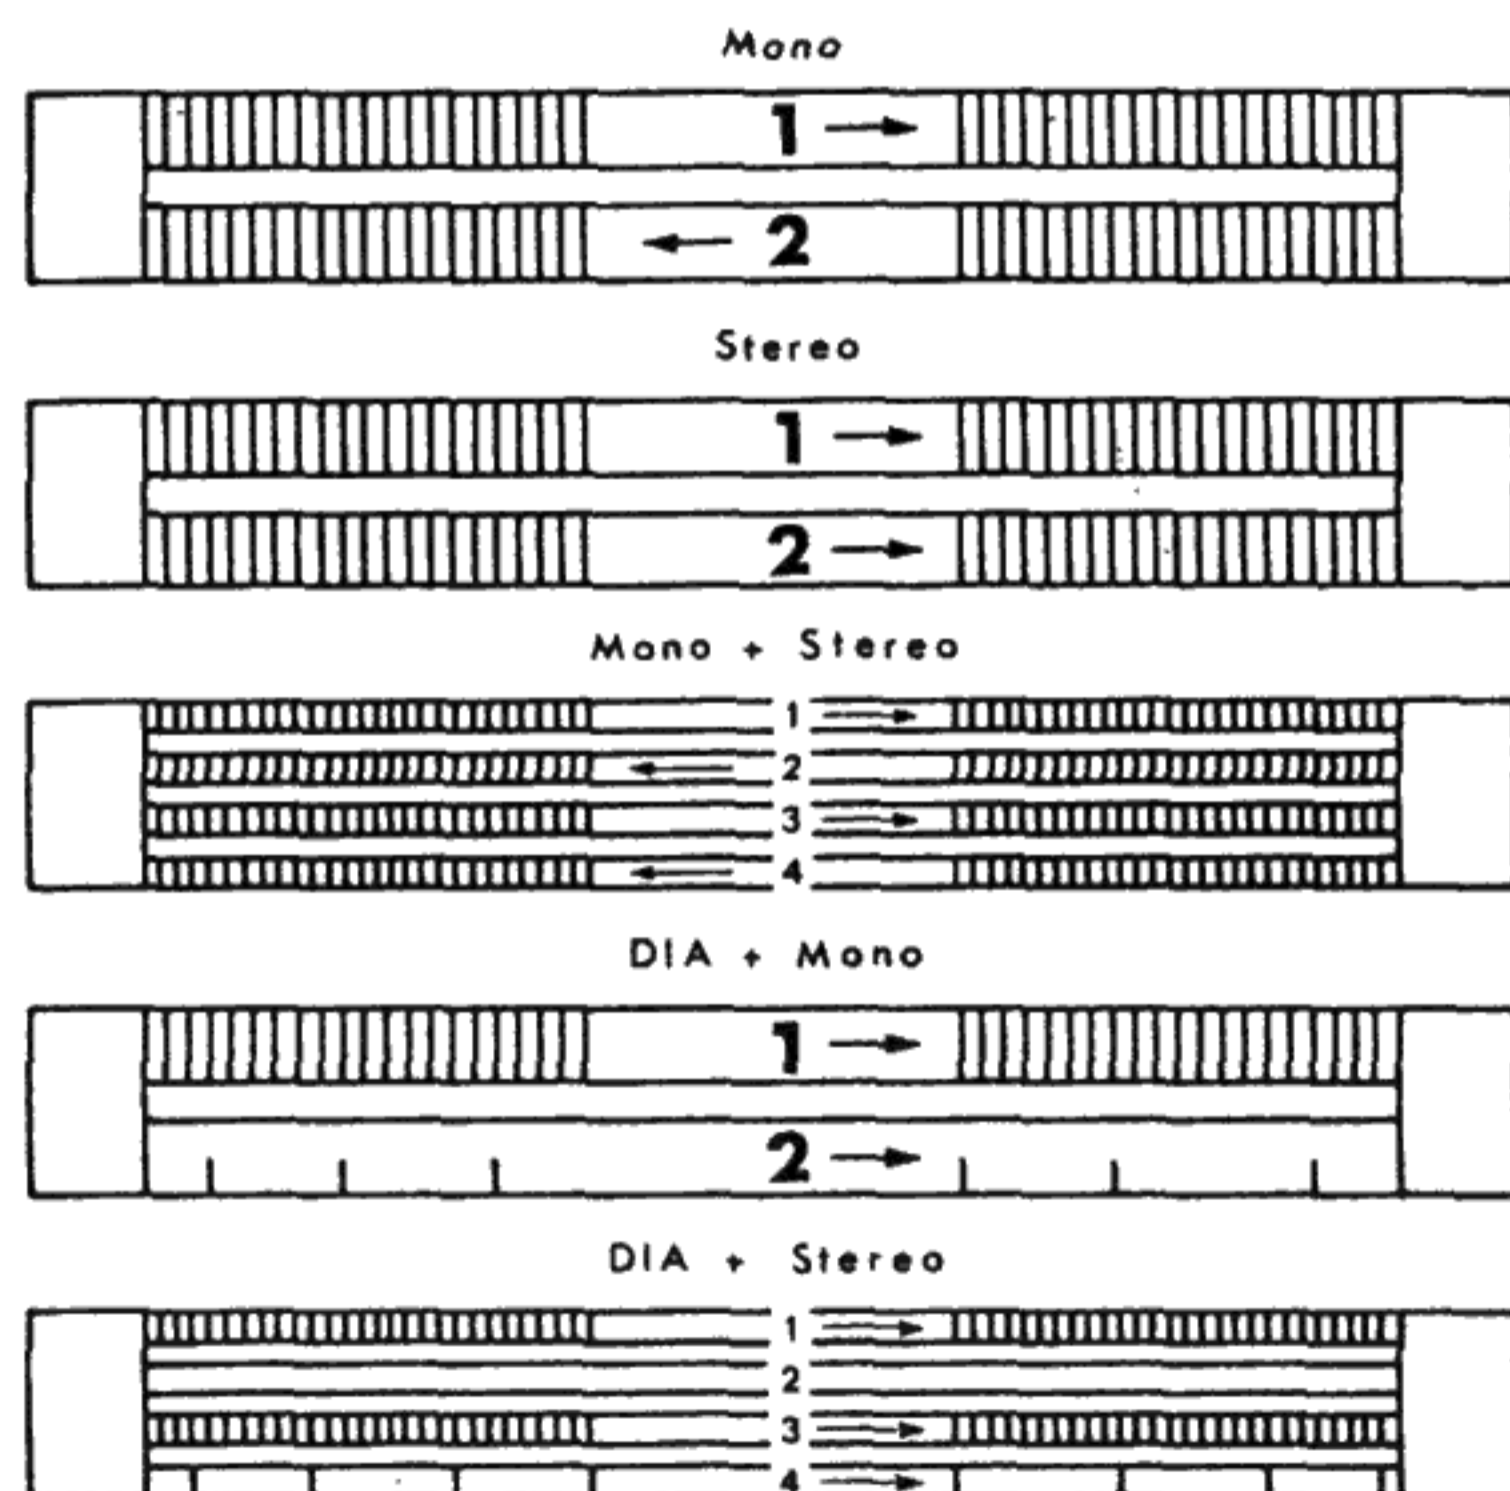

Fig. 4
In half-track operation slide synchronization may be only monophonic, but stereophonic in quarter-track operation. The differences between half-track and quarter-track operation as well as the location of the control track for slide projector operation are clearly shown in Fig. 4. Slide synchronization is possible only at the 9.5 or 19 cm/s (7½" or 3¾") tape speeds!
control pulses must be recorded on the lower track (see Fig. 4 "SLIDE + MONO") of the tape. Moreover, during playback through the power amplifier of a hi-fi system the volume of the control track channel must be turned down to zero in order to render the 1 kHz control pulses inaudible. On the other hand, if the quarter-track tape heads (Mount Z 411) are used, sound for the slide showing may be stereophonic (see Fig. 4 "SLIDE + STEREO"). It should be noted that only tape speeds 3% or 7½ ips may be used for recording the sound and control tracks for slide shows. Before starting to record, write a script detailing the order in which the slides are to be shown together with the commenting texts and the background music to be employed. Referring to the script, you may use the master control (5), when recording, to fade in and out the microphone input for the spoken comments and the radio or phono input for the musical background. To fade over from the microphone input to the radio or phono input, evenly turn the level of the microphone input down to zero (the mid-position of the master control) and evenly increase the level of the music input from zero to the full strength desired. If the spoken commentary is to be accompanied by a soft musical background, a mixer (like UHER Mix 500 A 124) must be used. Connect the mixer via UHER Stereo Lead K 541 to the RADIO socket of the SG 631 LOGIC. Read the instruction manual enclosed with the mixer for instructions on using mixer controls to fade inputs in, out and over. To check the order of the slide series, slide changing may be manually signalled while recording. With automatic slide projectors slide changes may be signalled with the projector's remote control unit, however.